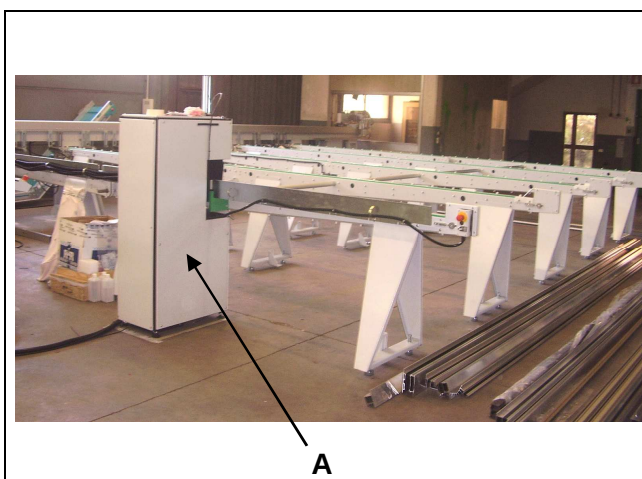

Fig. 03-01
1. **Automatic bar loading magazine 'STEP IN' (Fig. 03-01):** motor driven infeed conveyor, consisting of belts on which the bars to be cut are placed. The belt stops when the bar reaches the correct position for being fed into the cutting line: the position is monitored by 3 bar detection photocells. On the middle of the STEP IN, at the second shield, there is a "Vision system for profile recognition" 'A' (camera) to monitor the visual correspondence between the type of profile loaded and the one in the program archive.